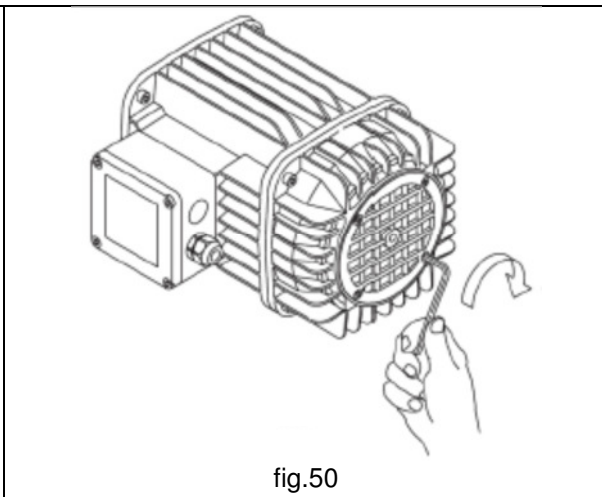

fig.50
9. Remote the grill (ventilation) completely screwing the four screws (fig. 50).